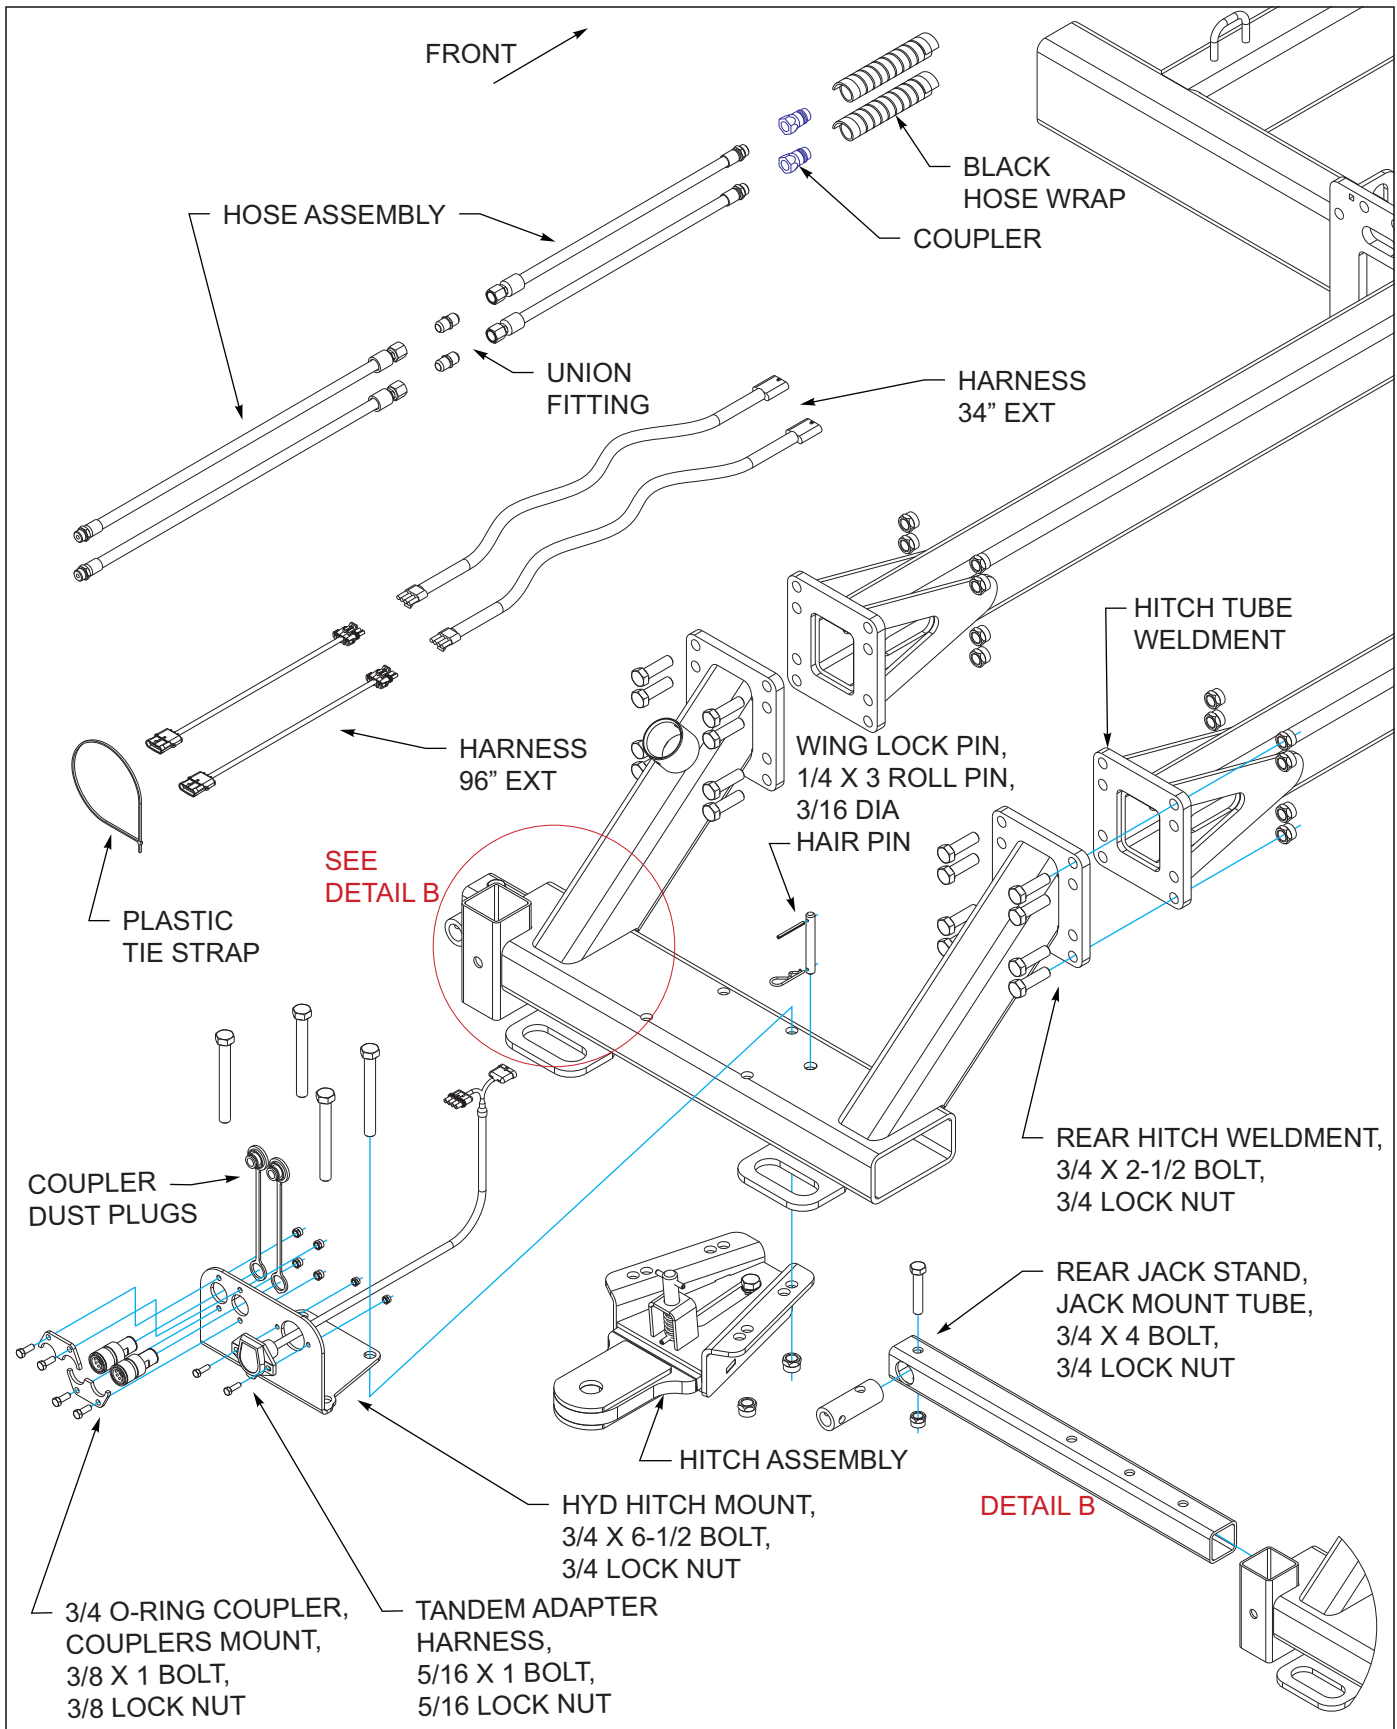

Figure 3-43: Rear Tow Hitch Installation (2 of 2)
5. Attach rear hitch weldment to rear of hitch tube weldments using 3/4 x 2-1/2 bolts and 3/4 lock nuts *See Figures 3-43.*